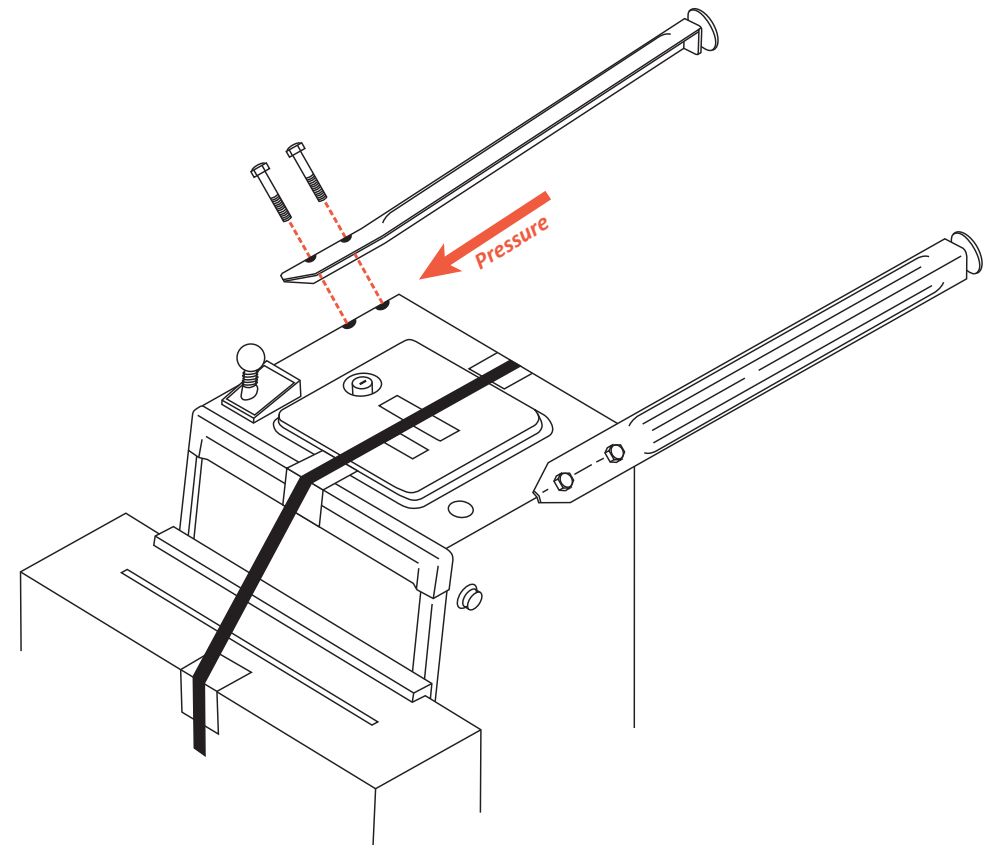

Figure A5. Installing the front legs.
5) Locate the eight acorn-head leg bolts in the loose parts. Thread 2 leg bolts through each leg and attach it to the cabinet (see figure A5). Using a 5/8" socket and ratchet or a 5/8" wrench, tighten the bolts firmly, while maintaining pressure (in the direction of the red arrow) on each leg.